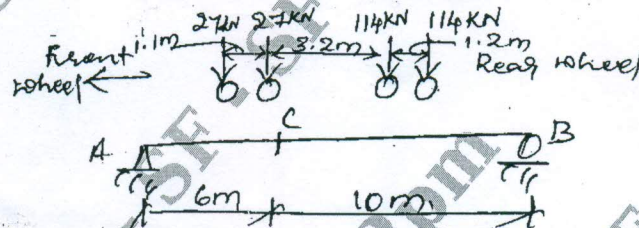

Fig.Q10
- 10 Determine maximum moment and shear force at point C shown in Fig.Q10. The loading is due to axle loads of IRC class A driving vehicle on top of the beam. Assume that the vehicle can move in either direction. (16 Marks)